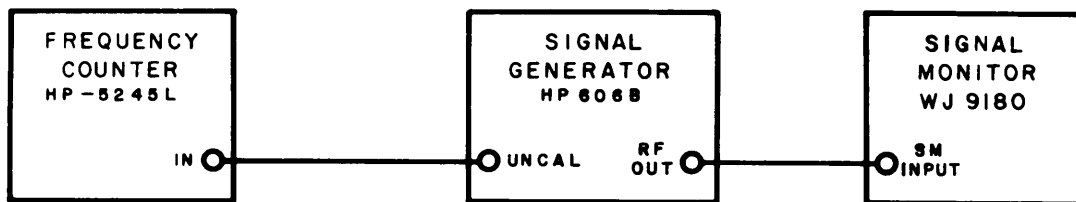

Figure 4-2. Equipment Setup for Performance Tests 4.6.3 through 4.6.6
- 1) Connect the equipment as shown in Figure 4-2.